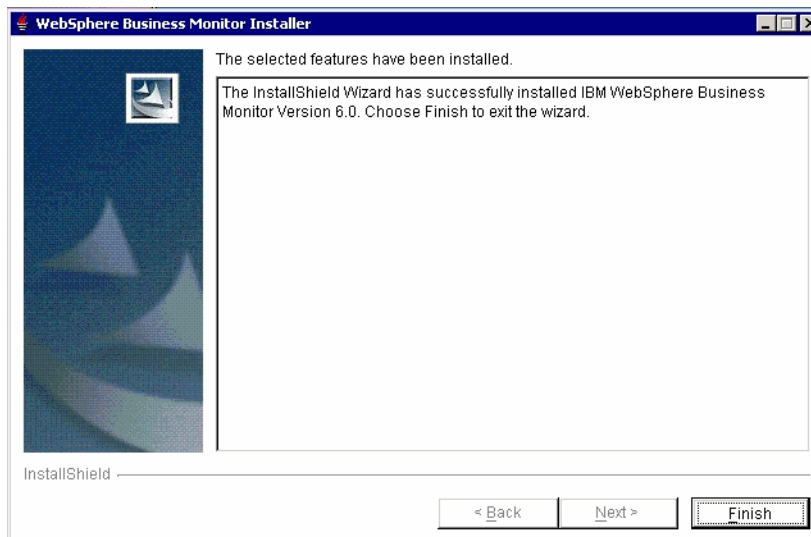

Figure B-19 Monitor Dashboard Client: Installation complete
- ▶ Click *Next* to proceed with the installation. It can take up to 1 hour, depending on your system. When completed, you get the confirmation (Figure B-19).